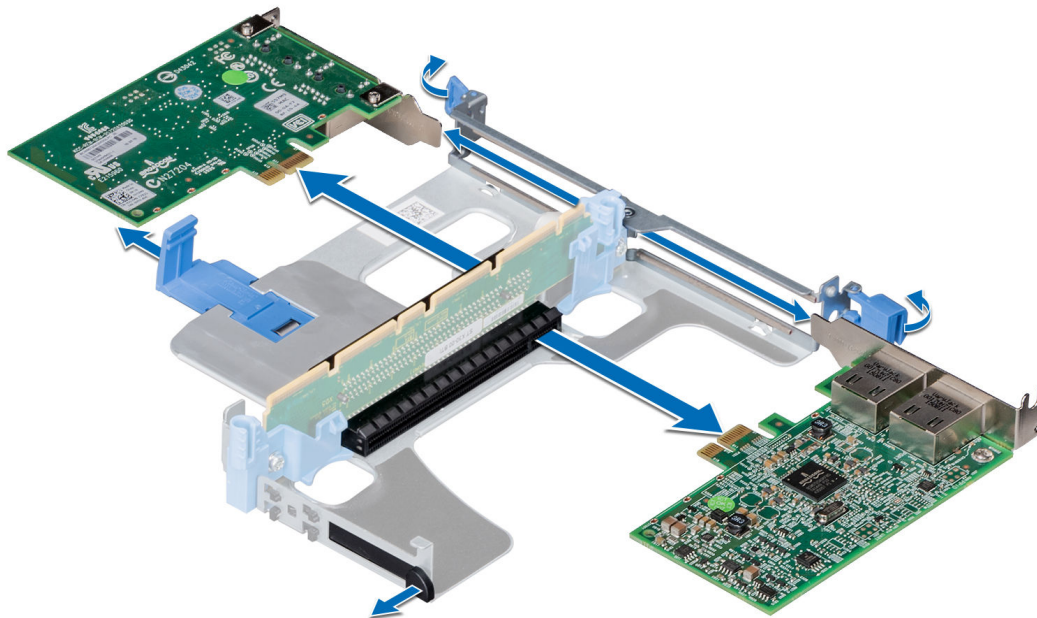

Figure 36: Remove NIC card from expansion riser 1A (1 CPU system with H730P or H750 RAID controller)
4. Once the riser has been removed, remove the NIC card from the riser card assembly. See Figure 35: Remove NIC card from expansion riser 1B \(2 CPU system with H730P RAID controller\) on page 120 and Figure 36: Remove NIC card from expansion riser 1A \(1 CPU system with H730P or H750 RAID controller\) on page 120.
5. Hold the network card by the edges on either side of the touch points and lift to remove it from the connector. See Figure 35: Remove NIC card from expansion riser 1B \(2 CPU system with H730P RAID controller\) on page 120 and Figure 36: Remove NIC card from expansion riser 1A \(1 CPU system with H730P or H750 RAID controller\) on page 120.